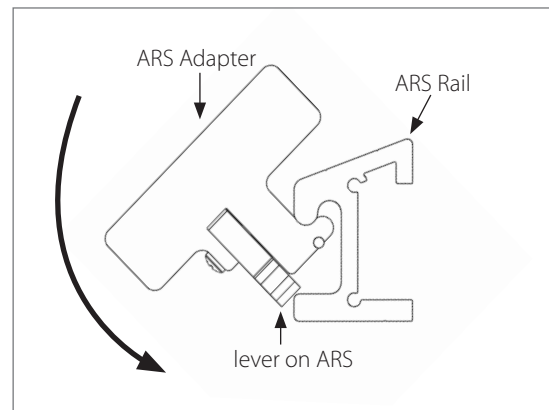

Figure 2
2. Guide the CPU mount into the ARS rail, pull the lever back against the Mounting Adapter and push the CPU mount into the channel. Release the lever when you reach the desired location (**Figure 2**).